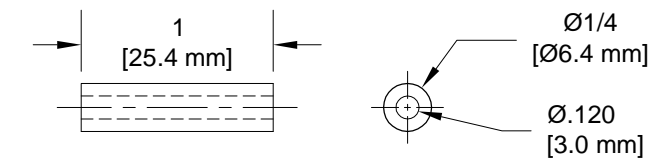

FIGURE 1: E-DRILL BUSHING
RV-10 11-03 REV 2: In Figure 1, E-Drill Bushing interior diameter changed to .120.
Step 1: Locate the steel E-Drill Bushing provided in the kit and shown in Figure 1 below. The drill bushing will be used to protect the hinge bearing from the drill bit when match-drilling the elevator horns to the inboard elevator hinge point. It may be necessary to reduce the diameter of the tube to get it to fit inside the bearing. Mount the tube in a drill press then hold a file to it until the diameter measures 1/4 [6.4 mm].